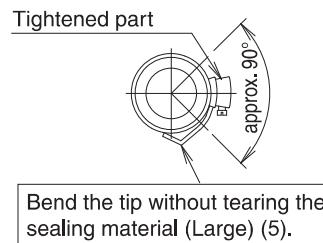

Fig. 12
- Tighten the metal clamp (1) on specified above otherwise. The drain hose (2), the socket or the metal clamp (1) may be damaged.
- Wrap the vinyl tape around the end of the metal clamp (1) so that the sealing material (Large) (5) to be used at the next process may not be damaged with the clamp end or bend the tip of the metal clamp (1) inward as shown. (Refer to Fig. 12)